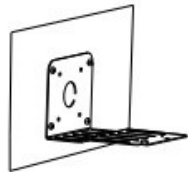

Figure 3-3
3. Align mounting bracket with hole; tighten screws .(Figure 3-3)